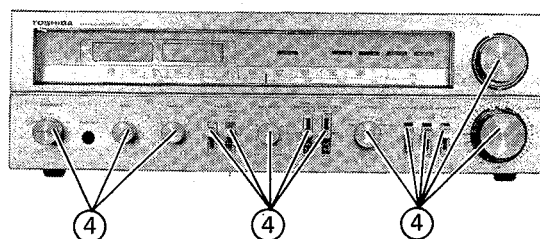

Figure 5
3. Remove the fourteen knobs ④. See figure 5.